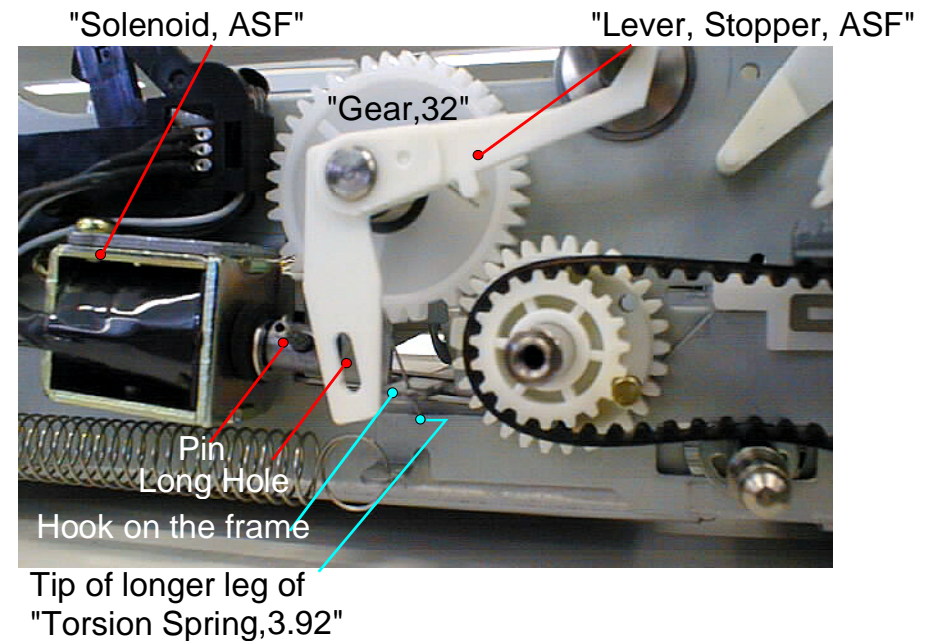

Figure 4-103. Installing "Lever, Stopper, ASF"(1)
21. Install "Lever, Stopper, ASF" to the same axis which "Gear,32" is installed, and hang the tip of longer leg of "Torsion Spring,3.92" to the hook of "Frame Assembly, Middle, Right". (Refer to Figure4-103)
22. Insert the pin of "Solenoid, ASF" to the long hole on the "Lever, Stopper, ASF". (Refer to Figure4-103)